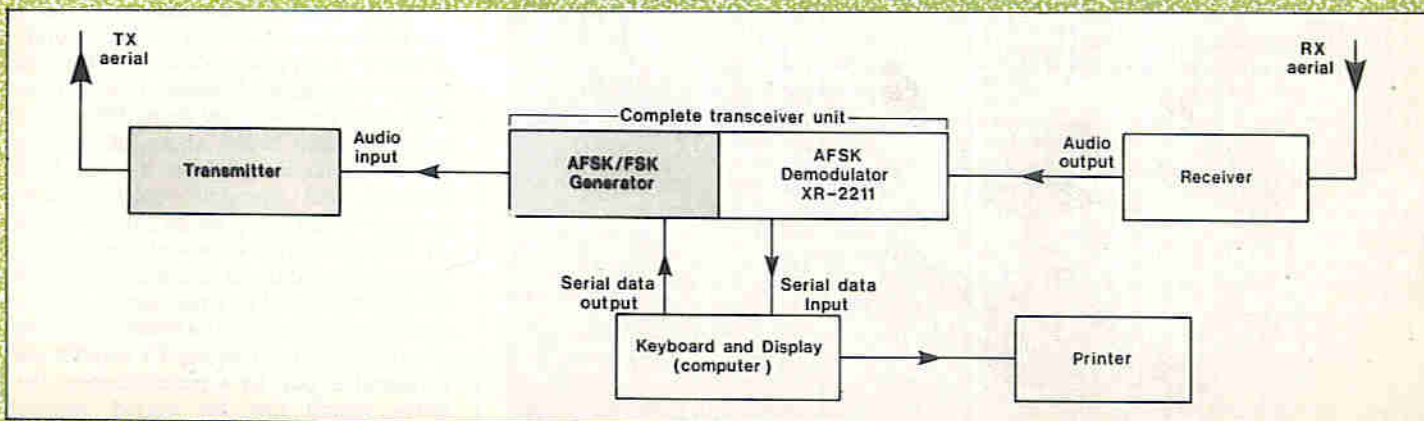
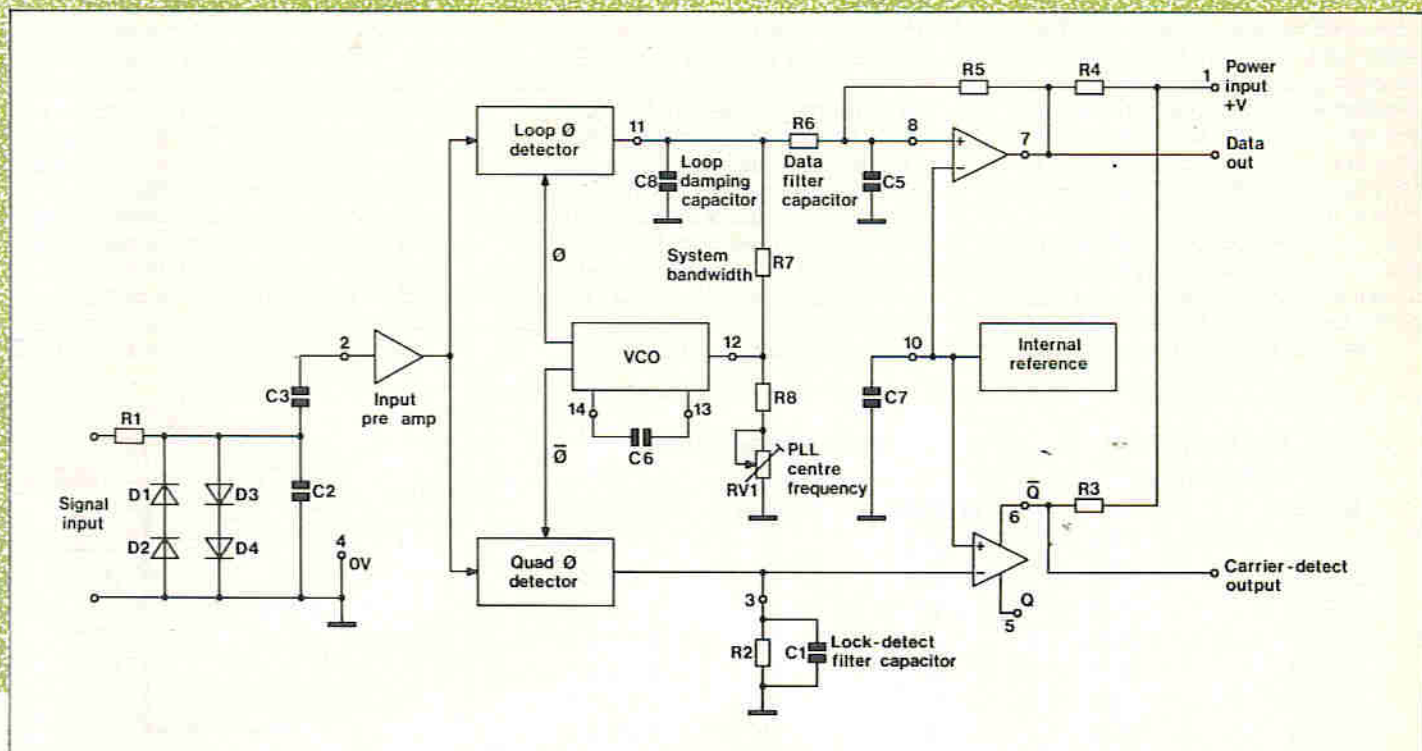

Figure 1. RTTY receive and transmit system.
Figure 2. Circuit connection for the XR-2211.
The reception and transmission of Radioteletype (RTTY) on the short wave and VHF radio spectrum is as popular now as it was when Maplin first launched the TU1000, published in the September 1984 issue of 'Electronics'. The TU1000 offers a complete self-contained terminal unit with receive tone demodulator and transmit tone generator, see Figure 1. In addition, it has an internal mains power supply, tuning aid and RS232 output driver. Unfortunately all this electronics makes the TU1000 a top of the range unit and out of the financial reach of some constructors. It is for this reason a second RTTY unit has been developed using smaller PCB building blocks. The first of which is the frequency shift keying (FSK) tone demodulator, based upon the XR-2211 decoder IC, see Figure 2. This circuit is all you require to decode RTTY if your computer has a TTL, 45/50 Baud, 5 bit serial data input. However, this format is not to be found on all computers, so in addition you may need to use a serial data translator with a TTL to RS232 converter, see Figure 8.
The circuit used for the frequency shift keying (FSK) demodulation is centred around the XR-2211 integrated circuit (IC). This IC is a monolithic PLL system, especially designed for data communications and is particularly suited for RTTY modem applications. Inside the IC package is a chip consisting of a basic PLL for tracking an input signal within the pass band, a quadrature phase detector which provides carrier detection, and an FSK voltage comparator which provides FSK demodulation, see Figure 3. Only a few external components are required to set the centre frequency, bandwidth, and output delay, see Figure 2.